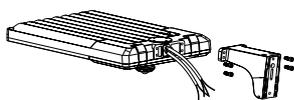

Figure 9
Step 1: Remove the bracket mounting screws on the fixture, run the wires through the bracket. (Figure 9)